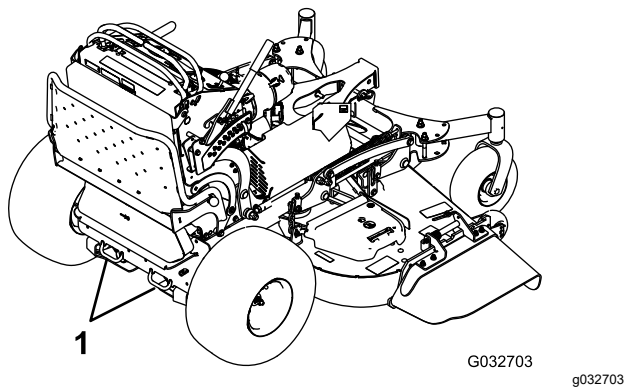

**Figure 31**
5. Back the machine up the ramp (Figure 31).